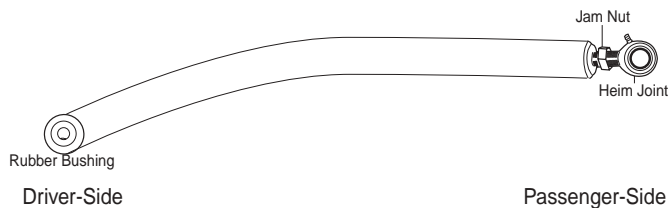

Figure 10
- Attach the the rubber bushing end of the panhard rod assembly to the driver-side beam assembly using one 9/16" bolt, two flat washers and one nylock nut (Figure 10). Leave loose at this time.